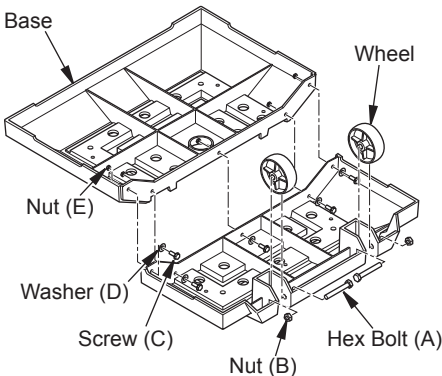

Figure 3 - Attaching Wheels to Base
1. Connect 2 base parts using 5 screws (C), 5 washers (D) and 5 nuts (E) as shown in Figure 3.
2. Turn base upside down. Attach 2 wheels, 2 hex bolts (A) and 2 nuts (B) as shown in Figure 3. Do not overtighten.